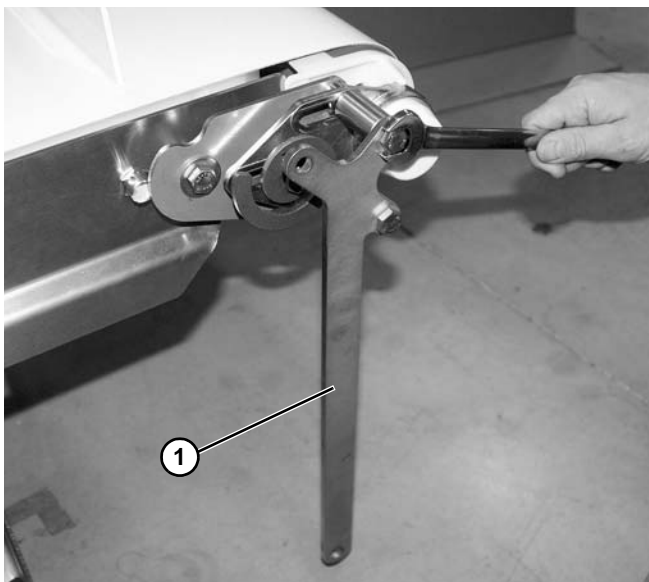

Figure 81
2. Remove tip up handle (Figure 81, item 1) when required.